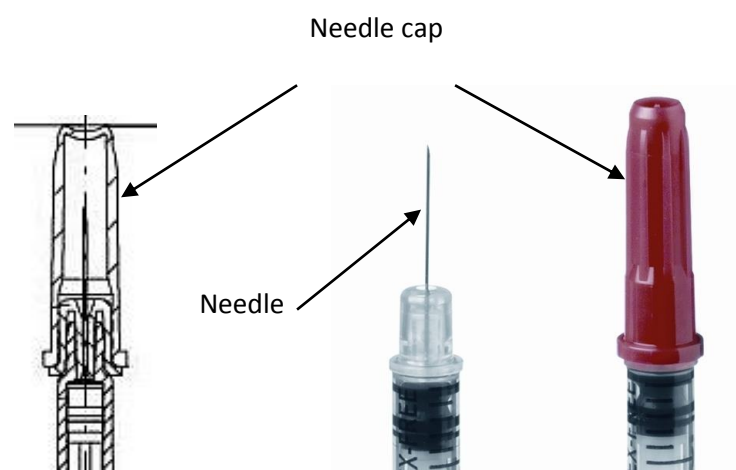

Figure 6: Actual and schematic representation of the needle cap and its assembly
- (7). (a). A medical product company is experiencing a problem of product dimension accuracy. The problem comes in the form of having difficulties on inserting or removing the needle cap during assembly or usage (see Figure 6). The caps have two colour; yellow and green but this problem is only prominent in yellow-coloured needle caps although all caps, regardless of their colour, were produced from compounded polypropylene (PP).